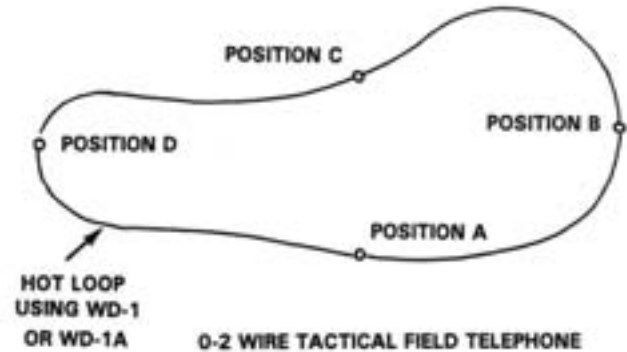

Figure 6-73. Installation of the Wire Loop.
- Lay out the field wire from position A to each position in turn, until all positions are connected; complete the loop by returning to position A. See figure 6-73.